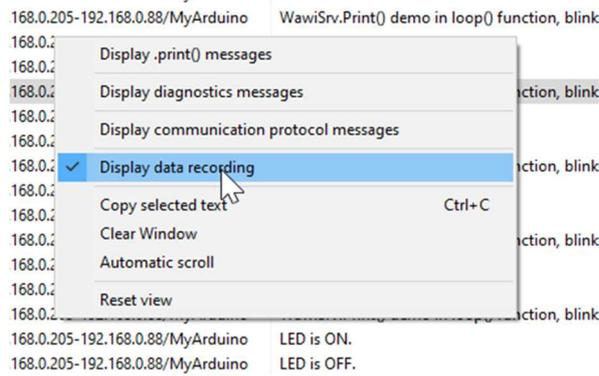

Fig. 8.5. Enable recording reporting in the output window.
- ✓ Enable "Display data recording" (fig. 8.5.)